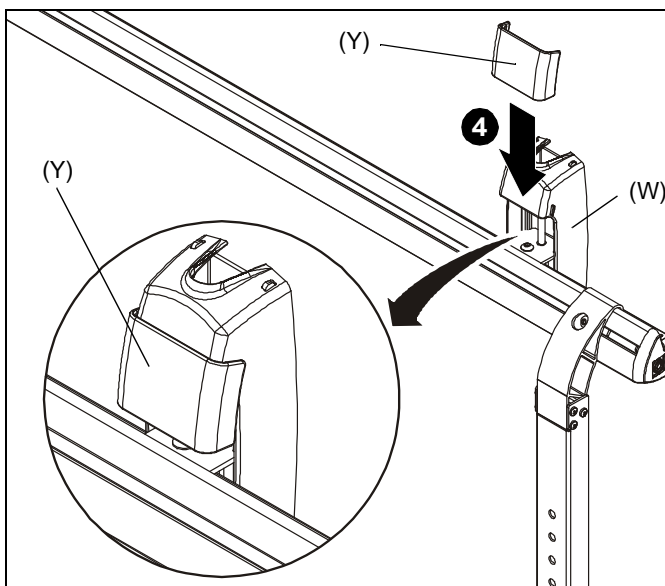

Figure 20
4. Slide the sliding cover (Y) down over the wall bracket cover (W) on both wall assembly brackets. (See Figure 20)